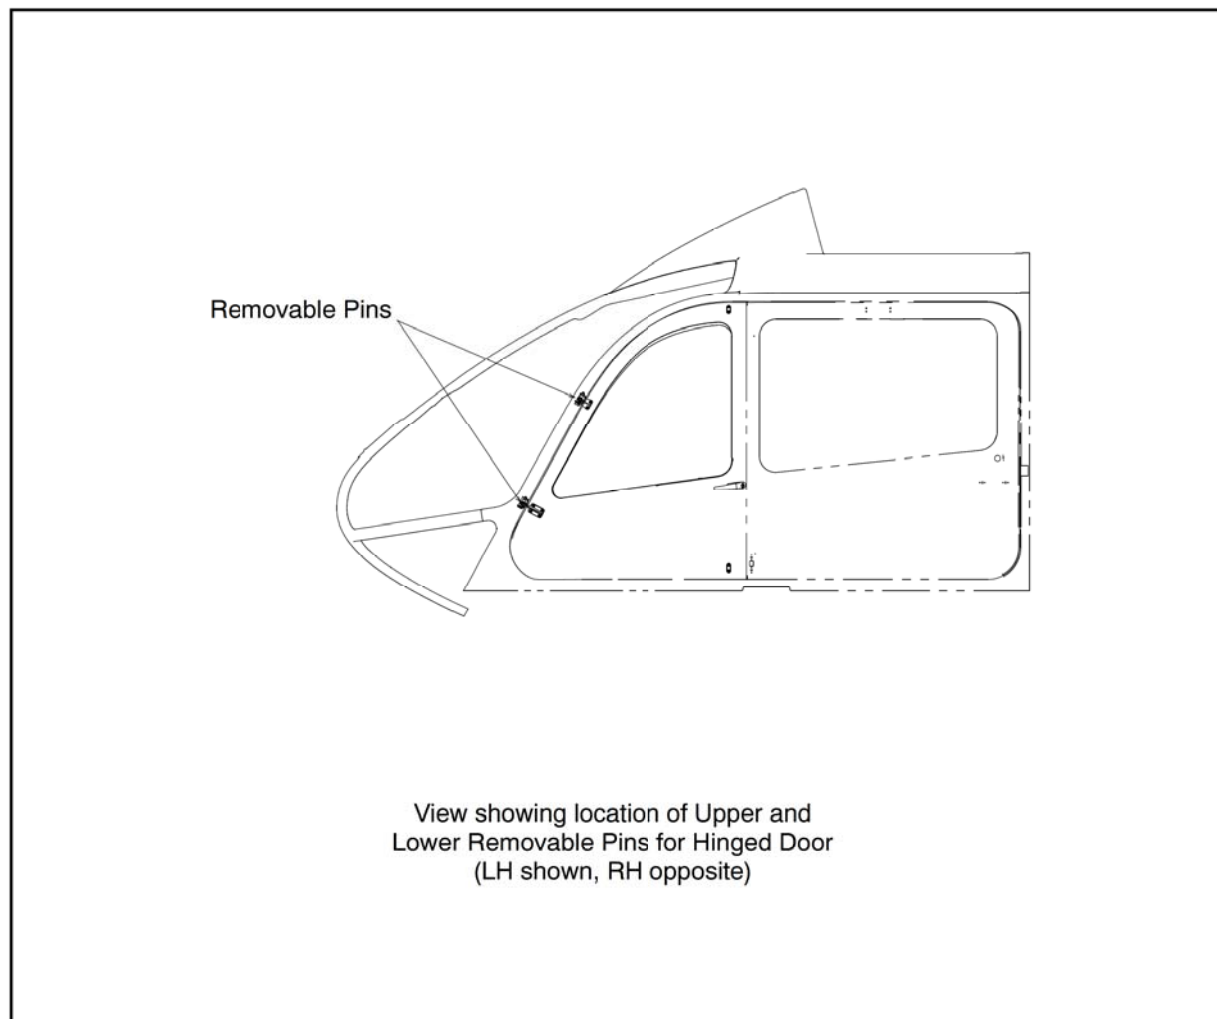

Figure 1 General Layout
- A. The Installation of removable pins for hinged door is utilized on the LH or RH or both doors to provide a "tool free" means to remove and reinstall the hinged doors. Pip pins replace the existing bolts and a spacer clip fits over the existing lower door fitting to replace the existing washers that are no longer used. Safety pins slide through holes in the bottom of the pip pins providing additional security. A Lanyard attached to each pip pin prevents the safety pin from being misplaced. Refer to General Layout, Figure 1.